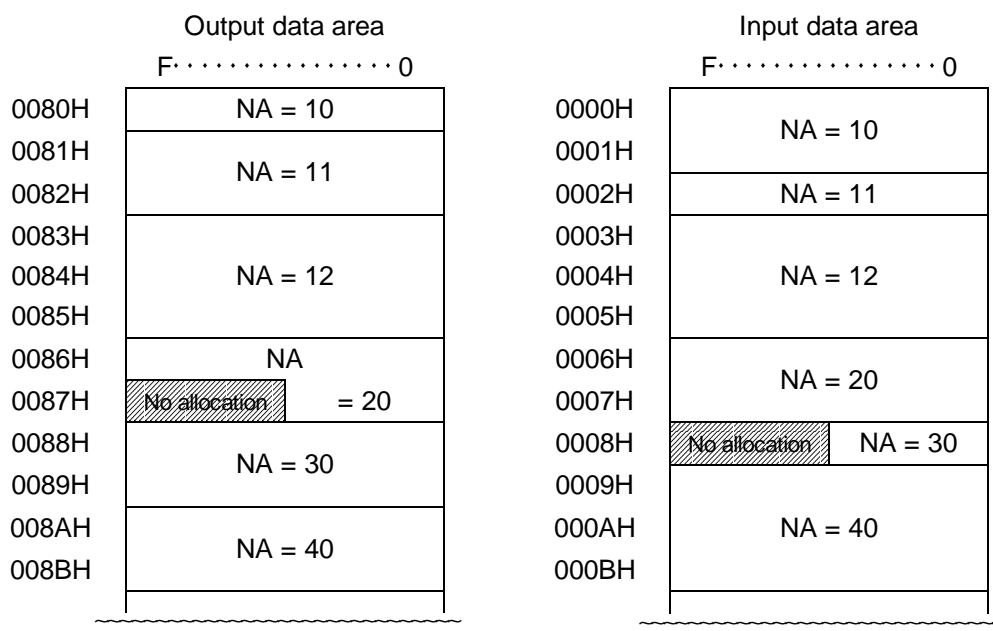

Figure 4.8 Input/Output Data Area in Slave Device Configuration (sample)
Reception/transmission data of slave devices will be allocated to the input/output data area in the order from smaller to larger node addresses. For example, in Table 4.11, Slave Device Configuration, the input data area/output data area is allocated to the top and the subsequent addresses without skipping, as shown in Figure 4.8. Allocation will be executed when run mode (transmission state enabled) is set by an operation mode control request after setting slave device parameters.
2. When you add a new slave device, enter a new value larger than the node addresses of the present slave devices. For Figure 4.8, enter a value larger than "41" for the node address of a new slave. If the node address of a new slave device is set to "18", allocating data area of node addresses 20/30/40 will be shifted.